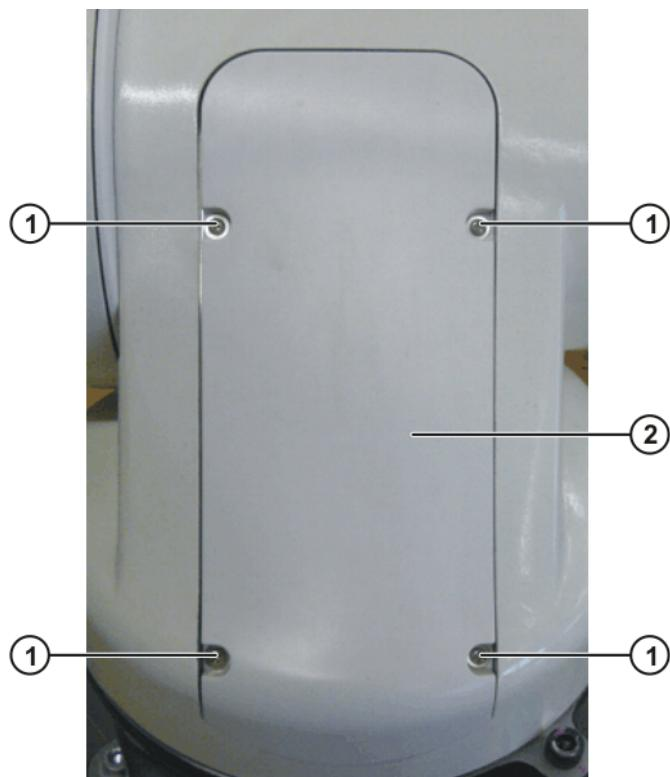

Fig. 9-2: Rotating column cover
2. Remove 4 screws (>>> Fig. 9-2) and take off the cover.
8. Mount the cover (**>>>** Fig. 9-2).